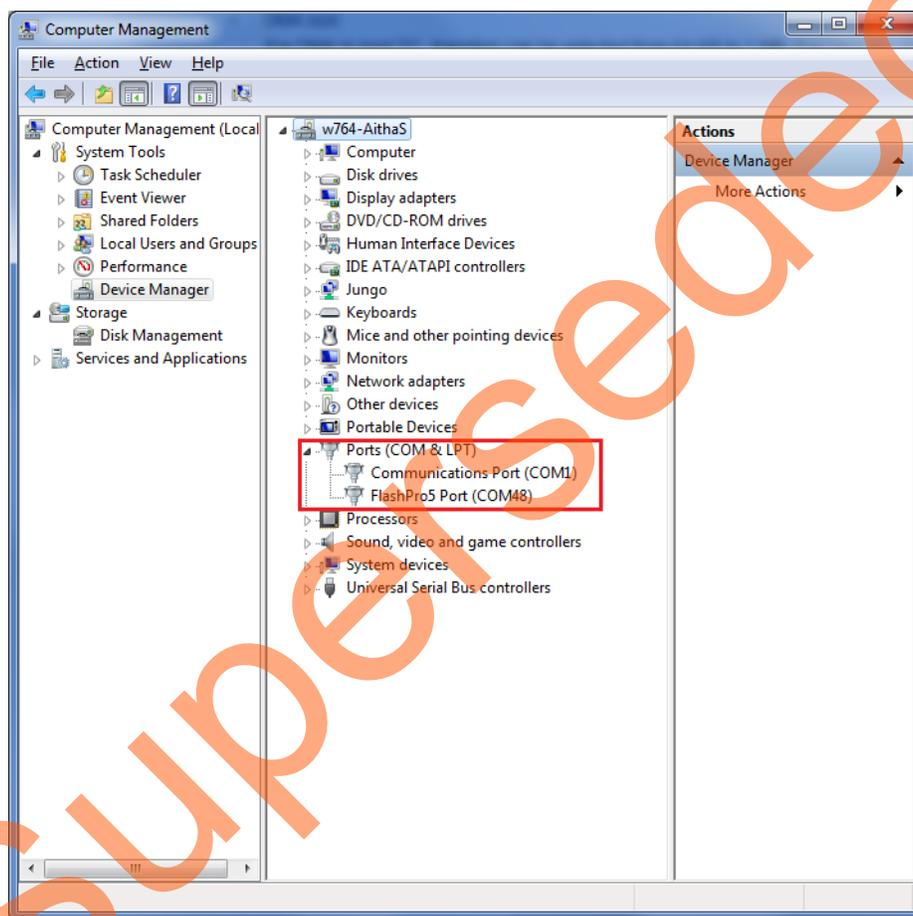

Figure 4 • USB to UART Bridge Drivers
1. Connect one end of the USB mini-B cable to the **J33** connector provided in the SmartFusion2 Advanced Development Kit board. Connect the other end of the USB cable to the host PC. Light emitting diode (LED) DS27 should light up, indicating the UART link has been established. Ensure that the USB to UART bridge drivers are automatically detected (can be verified in the **Device Manager**), as shown in Figure 4.